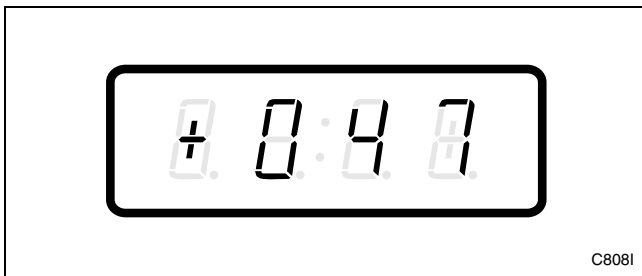

Figure 172
3. Press the DELICATES (+) or the COLD (-) keypad to scroll through the programmable options until “+047” appears in the VFD. Refer to *Figure 172*.